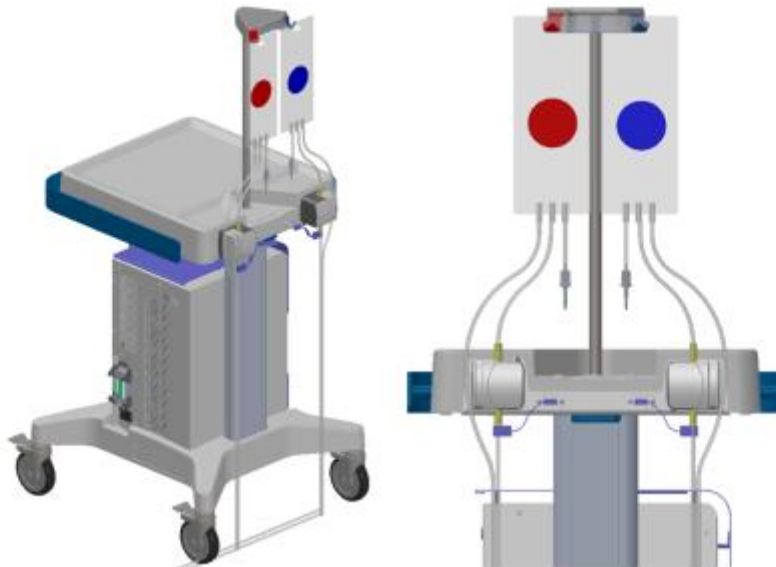

Figure 4: Preparing the system cart and fluid tube sets
- f. Hang the ECD reservoir bag on the blue weight sensor hook on the System Cart (*Figure 4*).